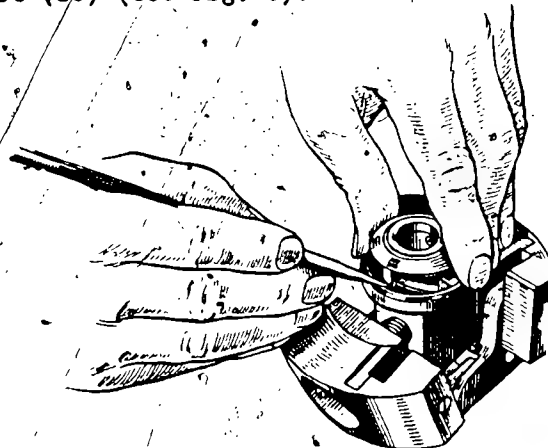
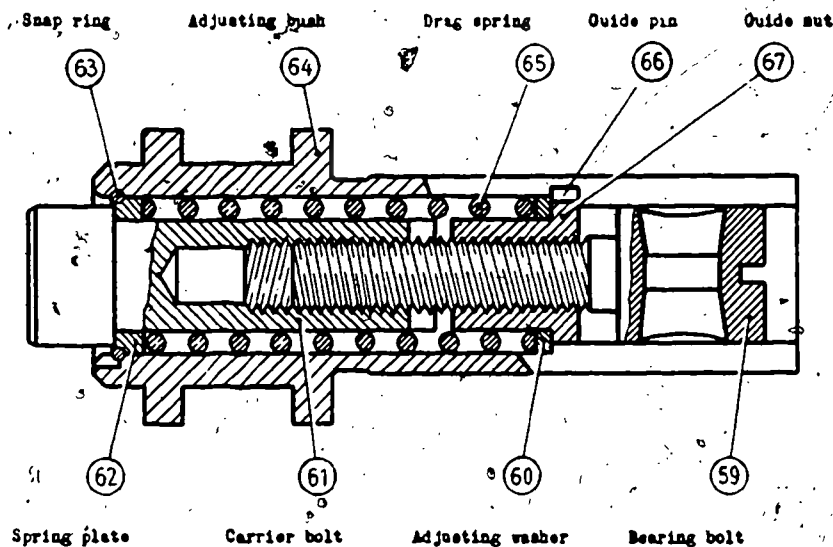

Fig. 9 Inserting the driver
Fig. 10 Section of adjusting pin
G) Adjusting pin (see Fig. 10)
7. Detach the flyweight assembly from the camshaft, and insert rubber buffers into the recess of the articulation piece. Mount driver complete with previously oiled lubricating wick. Lift rubber buffer with the aid of a scribe at the lugs of the driver (see Fig. 9). Insert driver by tapping slightly with a rubber mallet.
8. Push the flyweight assembly complete with vibration damper on to the camshaft, insert lock washer (27), place compensating washers (26) and round nut (28) on camshaft end and tighten the latter with spanner. Bear in mind hints at the end of paragraph 5.
9. After mounting guide bush (3), tighten both fixing screws securing them with a wire (2). Care: The securing wire must be taken round the collar of the guide bush.
B) Adjusting pin (see Fig. 10)